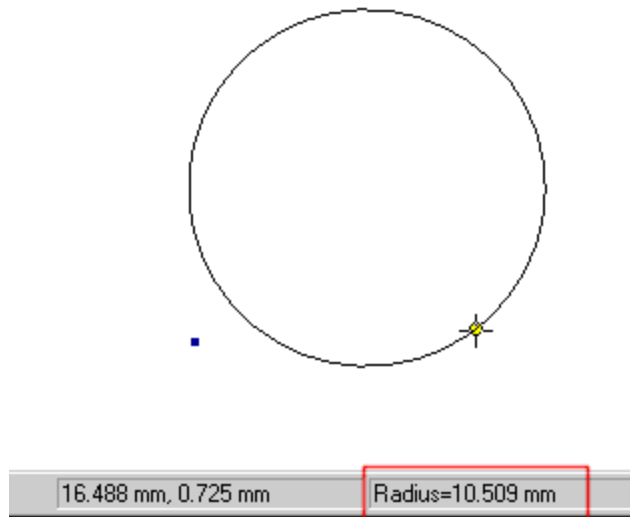

Figure 2: Projected center point and circle.
5. Click near, but not on, the projected center point to define the center of the circle. Move the cursor and click again when the radius value shown in the status bar is approximately *10mm* (see Figure 2).